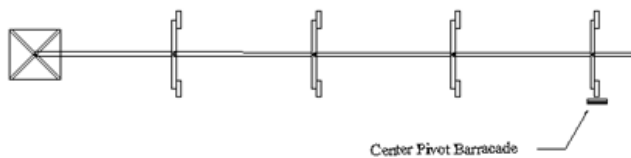
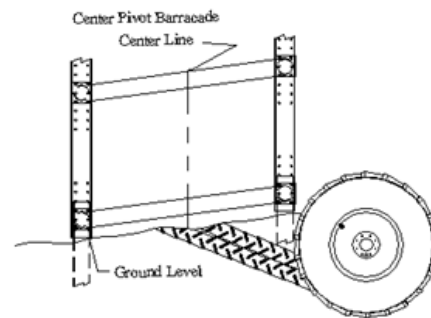

Fig. 1
Fig. 2
1. The barricade is placed in line with the “last tower” wheel track of an irrigation system (Fig. 1). In this location the barricade restrains the movement of the system until the overwater shutdown, times down, and shuts the system off.
2. To insure proper function the Barricade must straddle the wet and dry wheel tracks of the irrigation system (Fig. 2).
9. Dig a hole 2 feet (24") x 5 feet (60") wide and 4.1 feet (50") deep. Position the hole at the end of the wheel track as described in fig. 1 and fig. 2.